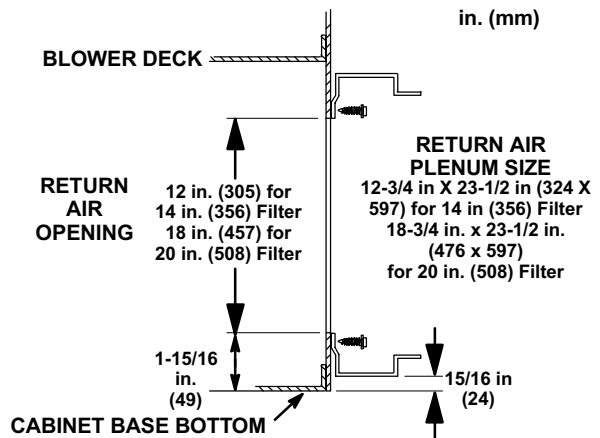

FIGURE 5
- 2 - Secure filter rack into place with the eight self-tapping screws provided. See figure 5.